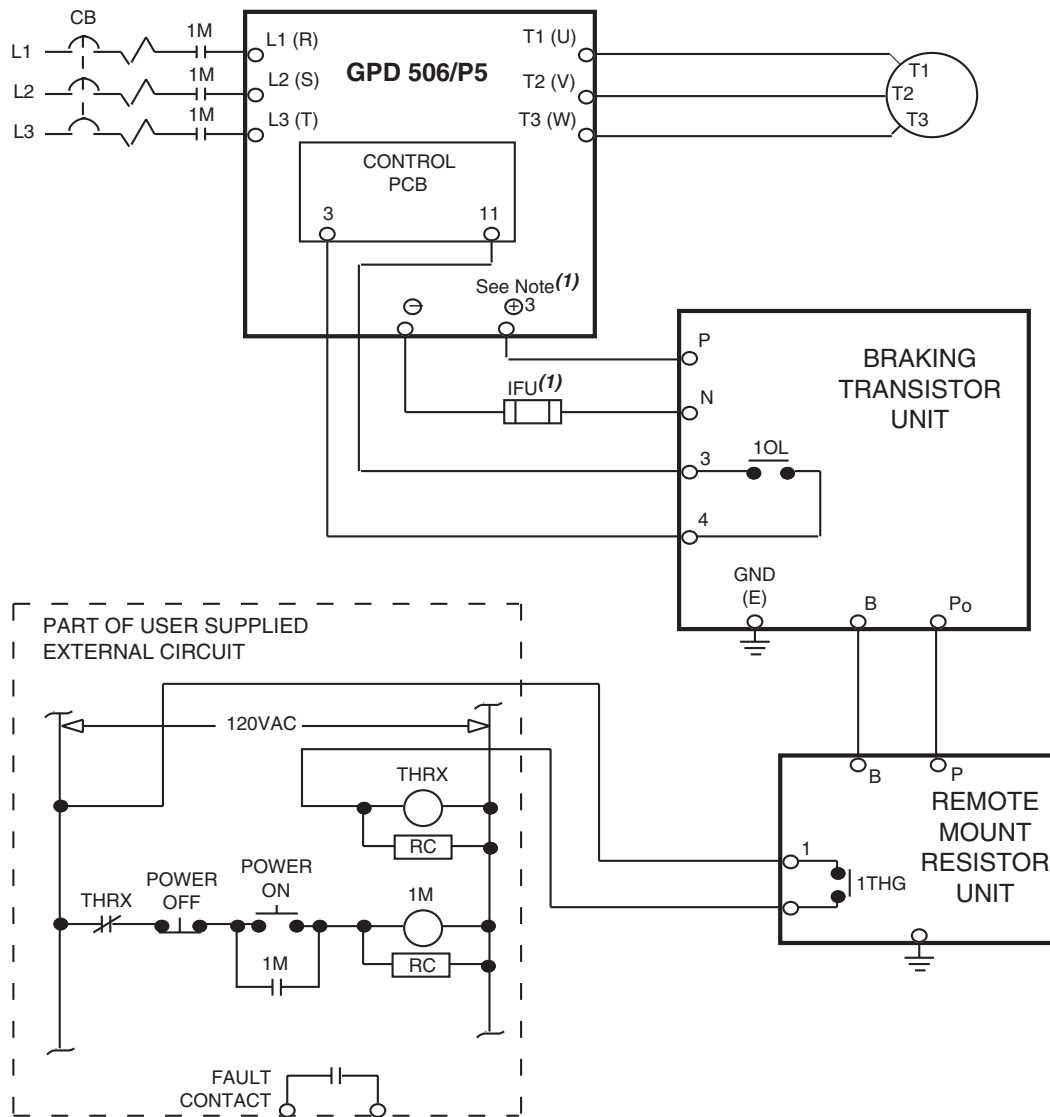

Figure A6-4. Wiring Single Braking Transistor Unit and Remote Mount Resistor Unit to Drive (GPD506V-A049 thru -A080, -B041 thru -B080)
4. If a single Braking Transistor Unit and Remote Mount Resistor Unit are being installed, connect them to the drive and external control circuitry according to the chart below and Figure A6-4.